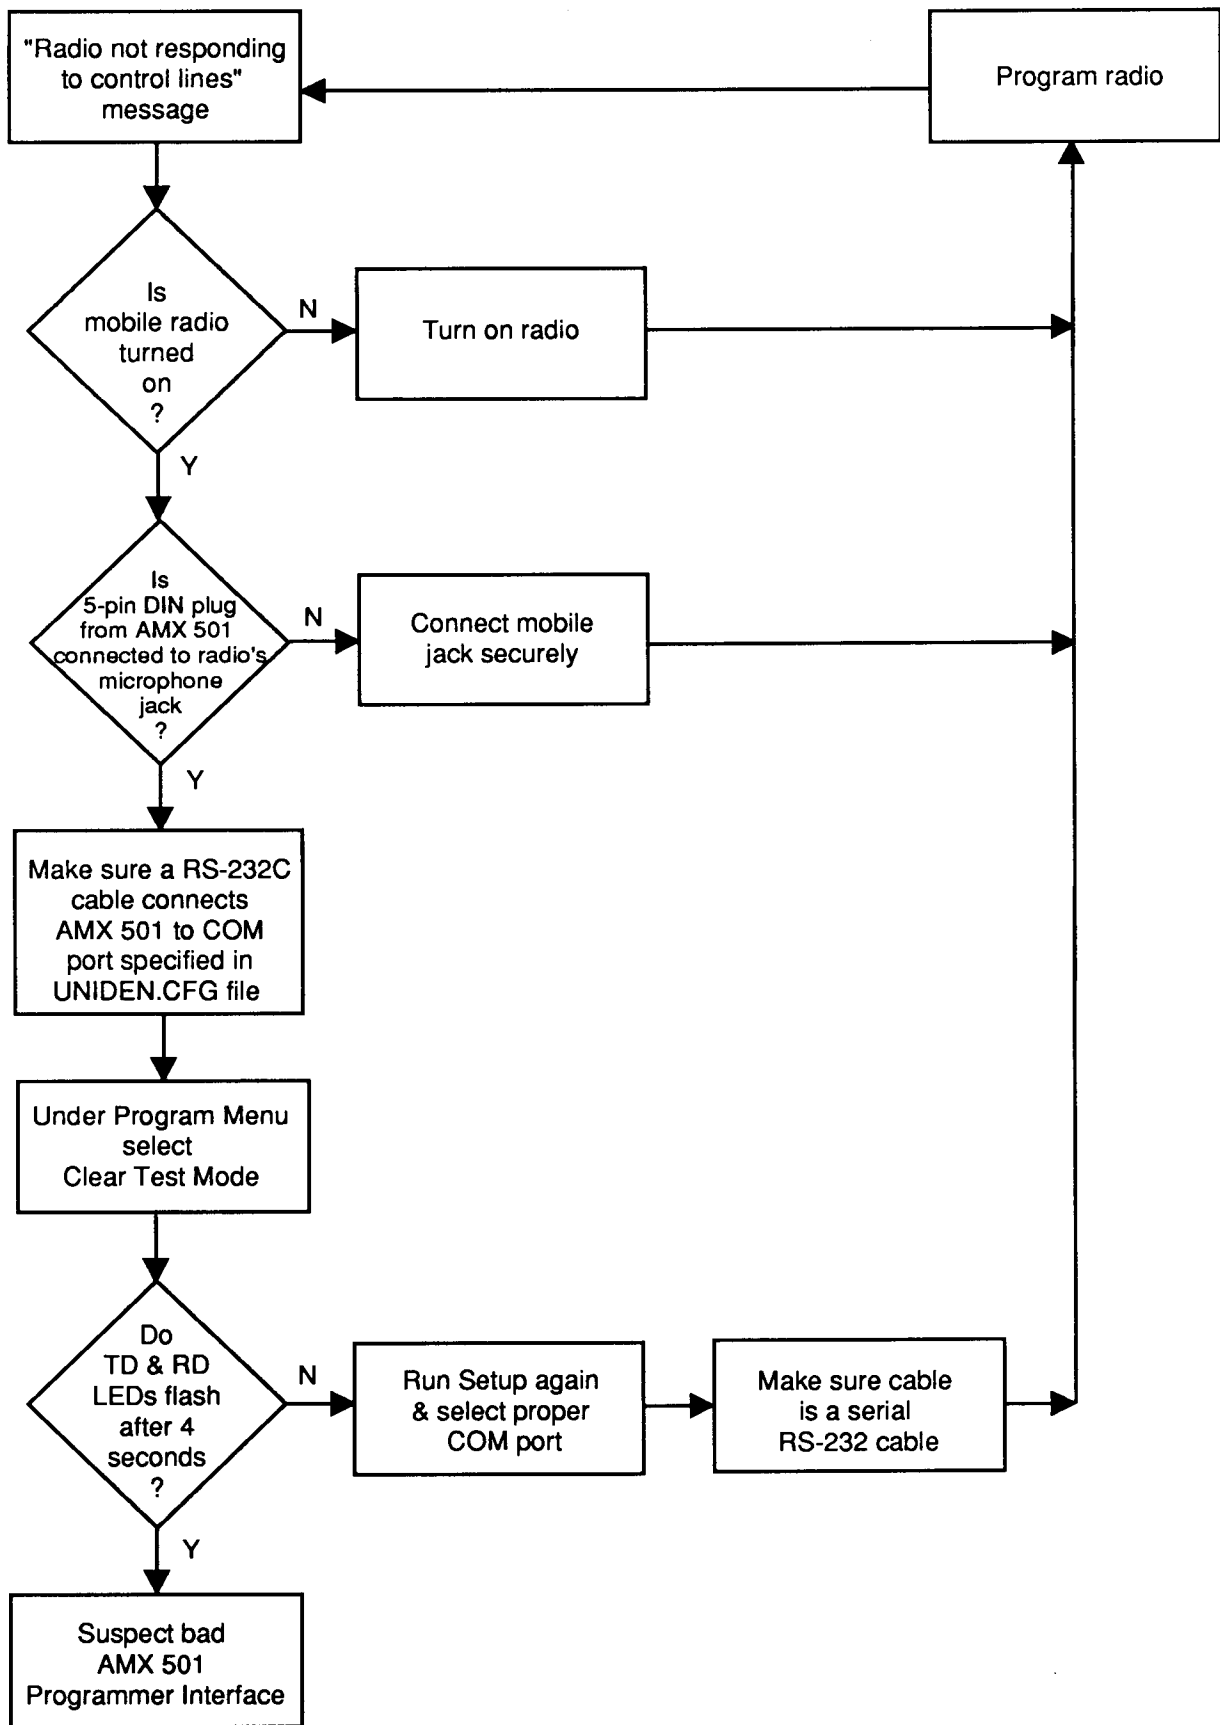

Figure 3. "Radio not responding to control lines" Error Message
- Use figure 3 when you try to program a radio and the error message "Radio Not Responding to Control Lines" appears.